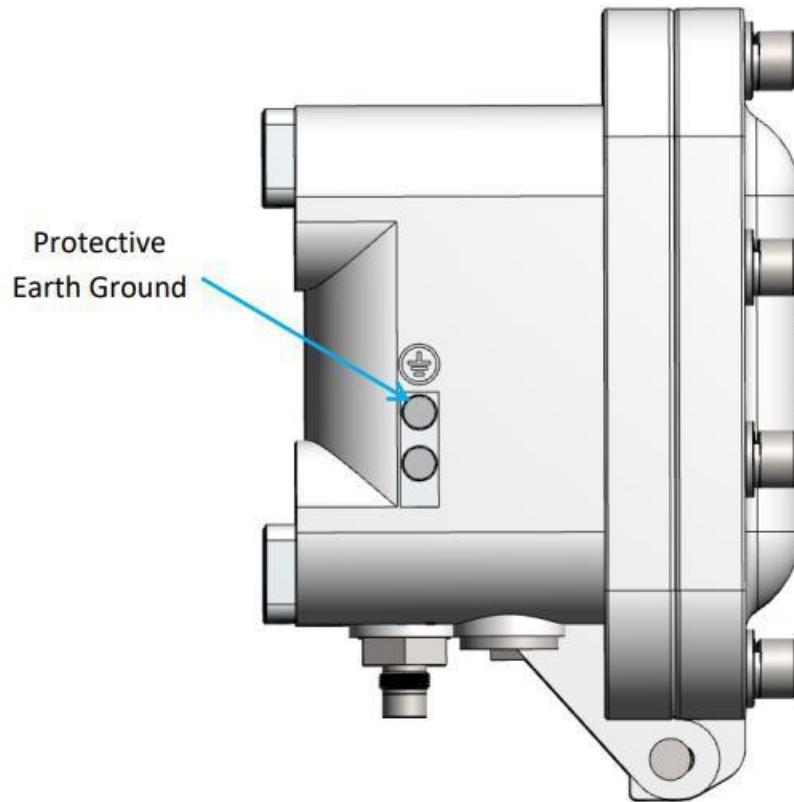

Figure 8: KONA Macro Ex Gateway PE Ground Connection Location
The KONA Macro Ex Gateway requires a permanently connected Protective Earth (PE) Ground conductor. The Protective Earth Ground connection is made through a double hole lug to the termination point located on the side of the enclosure as illustrated in Figure 8. The cable lug must have 6.35 mm \varnothing holes on 16 mm centers (0.25" \varnothing on 0.63" centers). The required ground cable gauge is #10 AWG (4 mm²) minimum. This ground connection to earth is always required.